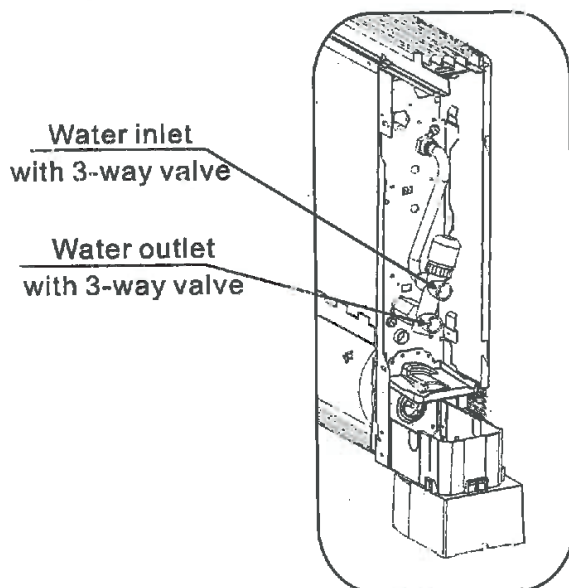
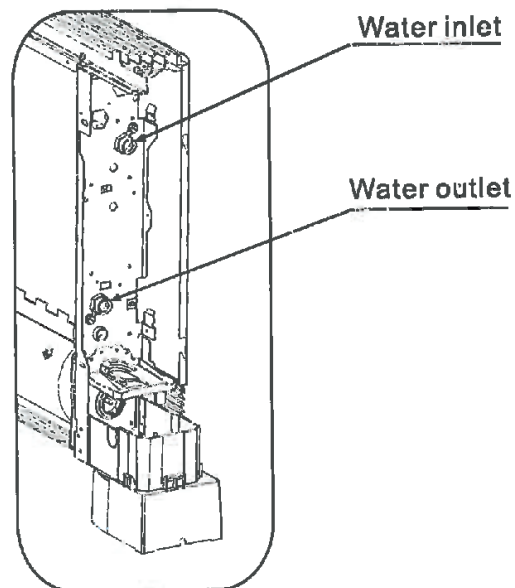

fig. 10
fig.11
**4.4.1 Refer to fig.10 and fig.11 to connect the inlet and outlet lines. The hydraulic lines and joints must be thermally insulated.**